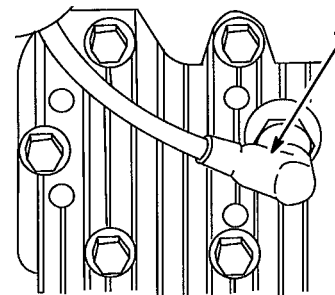

Figure 49
3. Remove spark plug (Fig. 49) and spin engine rapidly using starter to blow excess oil from the cylinder. Clean spark plug or replace if cracked, broken or electrodes are worn.
8. Reconnect spark plug wire (Fig. 49).